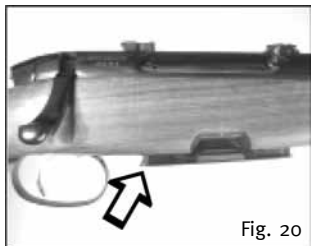

Fig. 20
1. First, make certain that the magazine has been removed or locked in second position (Fig. 20) and the weapon is unloaded!